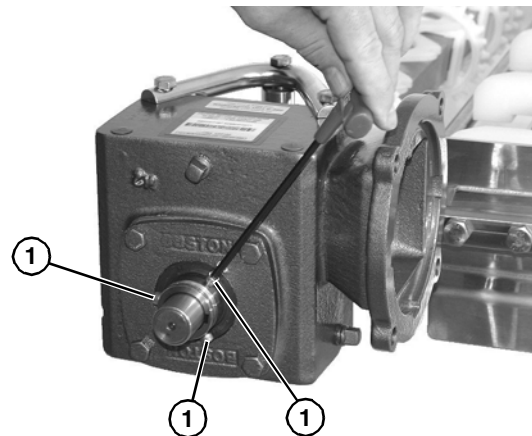

Figure 56
3. Using a hex wrench, loosen the allen head screws (Figure 56, item 1) that connect the gearmotor to the drive spindle. Repeat on opposite side of gearmotor.